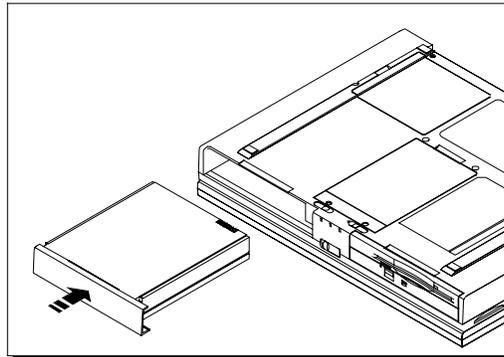

Figure 5-5: Inserting the Battery Pack
To insert the battery pack into the Notebook refer to *Figure 5-5* and the following instructions:
1. The battery slides into the battery bay as shown in *Figure 5-5*.